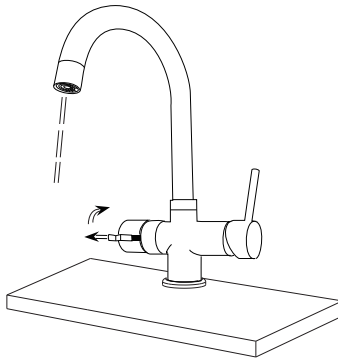

Figure 4
- 2: Turn faucet on (hold if necessary) to fill tank (about 1 minute). When tank is full, water will flow from faucet, as shown in Figure 4.